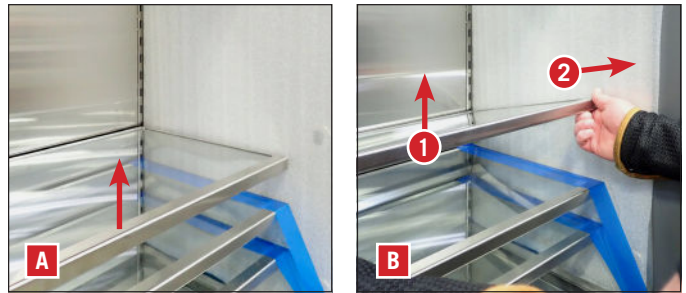

FIG. 4. Lift the shelf front up (A). Then, lift the shelf back and pull forward (B).
3. Remove the shelf. See fig. 4.